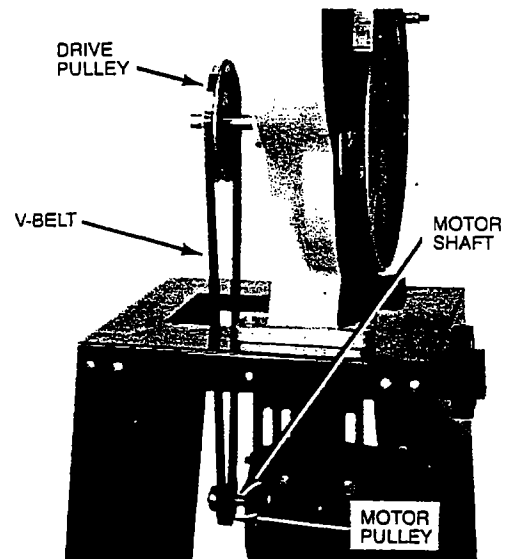

FIGURE 9
1. Assemble motor pulley to motor shaft (Figure 9), engaging motor pulley setscrew with key in motor shaft.